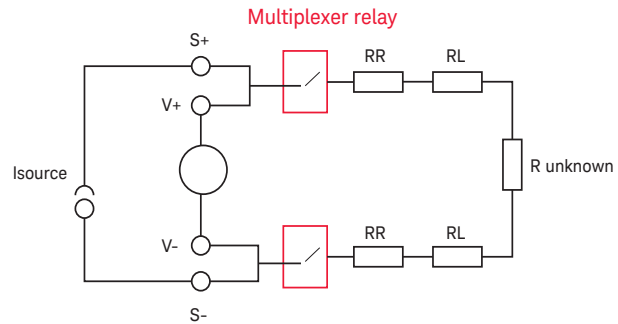

Figure 2. Two-wire technique where RR is the relay contact resistance and RL is the lead resistance. R is the resistance to be measured.
The drawing at Figure 2 shows an unknown resistance connected to an ohm meter through a multiplexer and a length of wire. In addition to the unknown resistance (R_{unknown}), the resistance of the lead wires (RL) and the contact resistance of any closed relays (RR) equal the total resistance measured. In applications where the unknown resistance is relatively high or where accuracy requirements are low, a two-wire measurement may be acceptable.